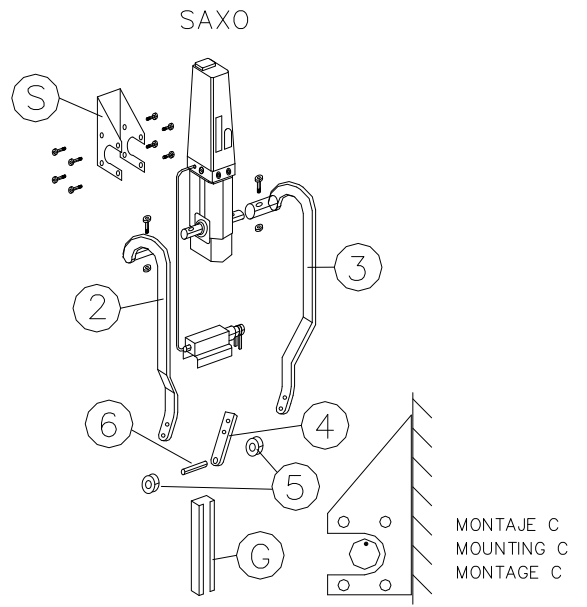

FIG. 7
Installation accessories Figure 7.
2. The point marked on the rotary shaft on the right-hand side of the operator 1RM-2**37 must be as shown in figure 7. Before welding parts "1","2","3" and "4" of figure 7 to the operator as shown in figure 7 the operator should be rotated approximately 5 degrees away from the end position. Then fit parts "5" and "6" of figure 7.
3. Fix part "G" of figure 7 to the door as shown in figure 5.